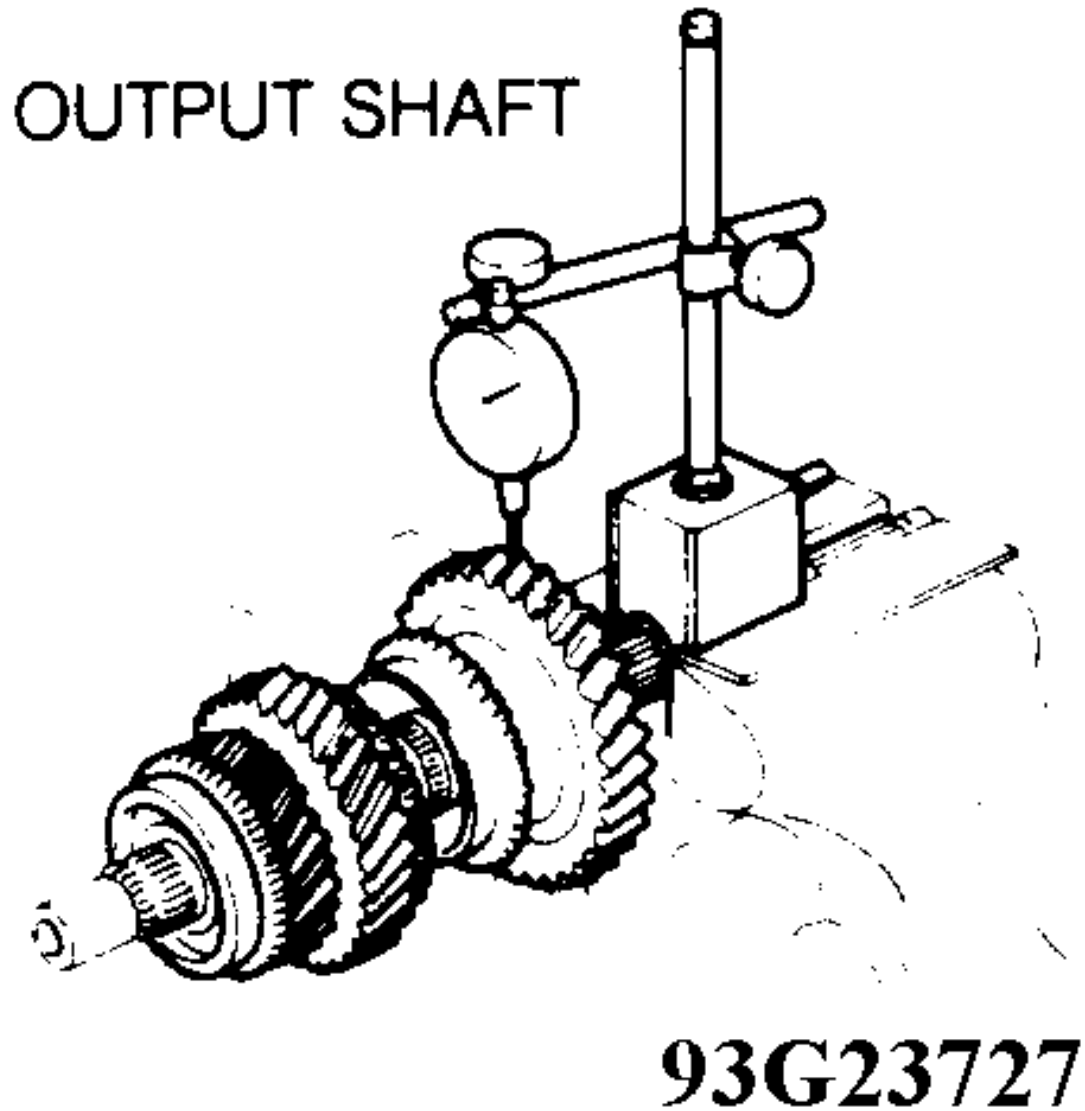

Fig. 7: Identifying Output & Countershaft Measuring Points (3 of 4)
1. For all measurement specifications, refer to **OUTPUT SHAFT CLEARANCE SPECIFICATIONS** table. Using feeler gauge, measure 1st and 3rd gear thrust clearances. See Fig. 7 . Using a dial indicator, measure 2nd gear thrust clearance. See Fig. 7 . Secure output shaft in soft-jaw vise. Using dial indicator, measure 1st, 2nd and 3rd gear lateral movement (gear oil clearance). See Fig. 7 . If clearance exceeds maximum, replace gear, needle bearing and/or shaft. See **OUTPUT SHAFT CLEARANCE SPECIFICATIONS** table.
1. Install spacer, needle roller bearing and 5th gear on countershaft. Measure countershaft 5th gear lateral movement (gear oil clearance). See Fig. 7. Standard clearance should be .0006-.003" (.015-.068 mm). Maximum clearance is .006" (.16 mm). Measure outer diameter of countershaft needle bearing surface. Minimum diameter is 1.097" (27.86 mm).